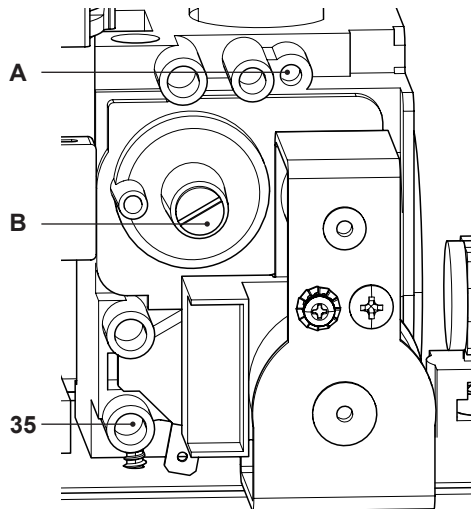

Fig. 7.6
- When the boiler is switched off (out of order), check the supply pressure by using the 35 point in Fig. 7.6 and compare the value read with that reported on the Gas supply pressure table in the "Technical Data" section (pag. 32 Activ A Plus 30C and pag. 35 Activ A Plus 35C).
- Close well the pressure point 35 in Fig. 7.6.